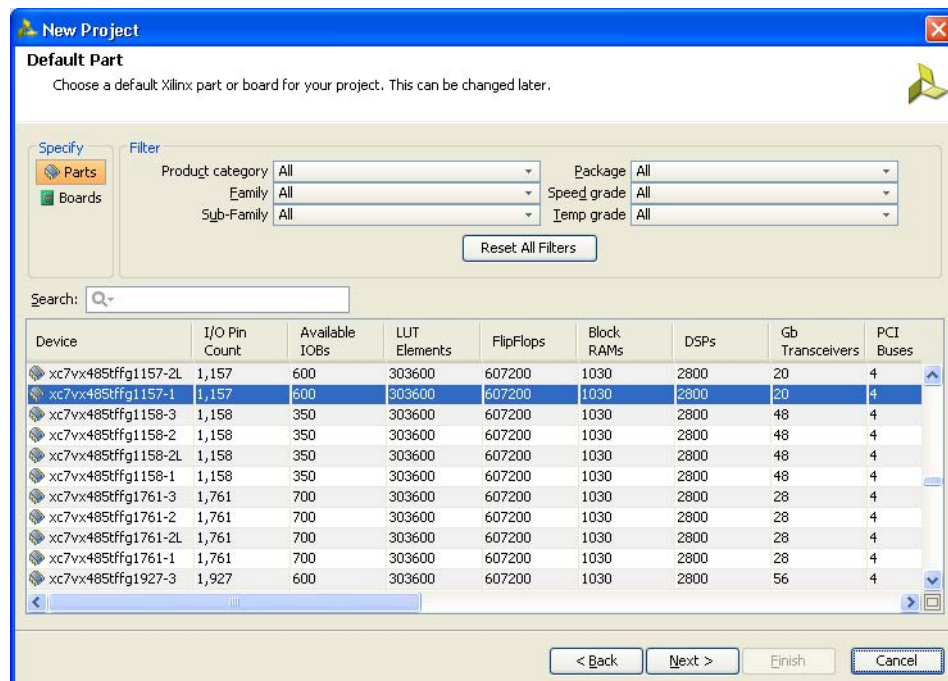

Figure 1-8: Default Part (Default Window)
8. Click **Next** to proceed to the **Default Part** page (Figure 1-8) where the device that needs to be targeted can be selected. The **Default Part** page appears as shown in Figure 1-8.